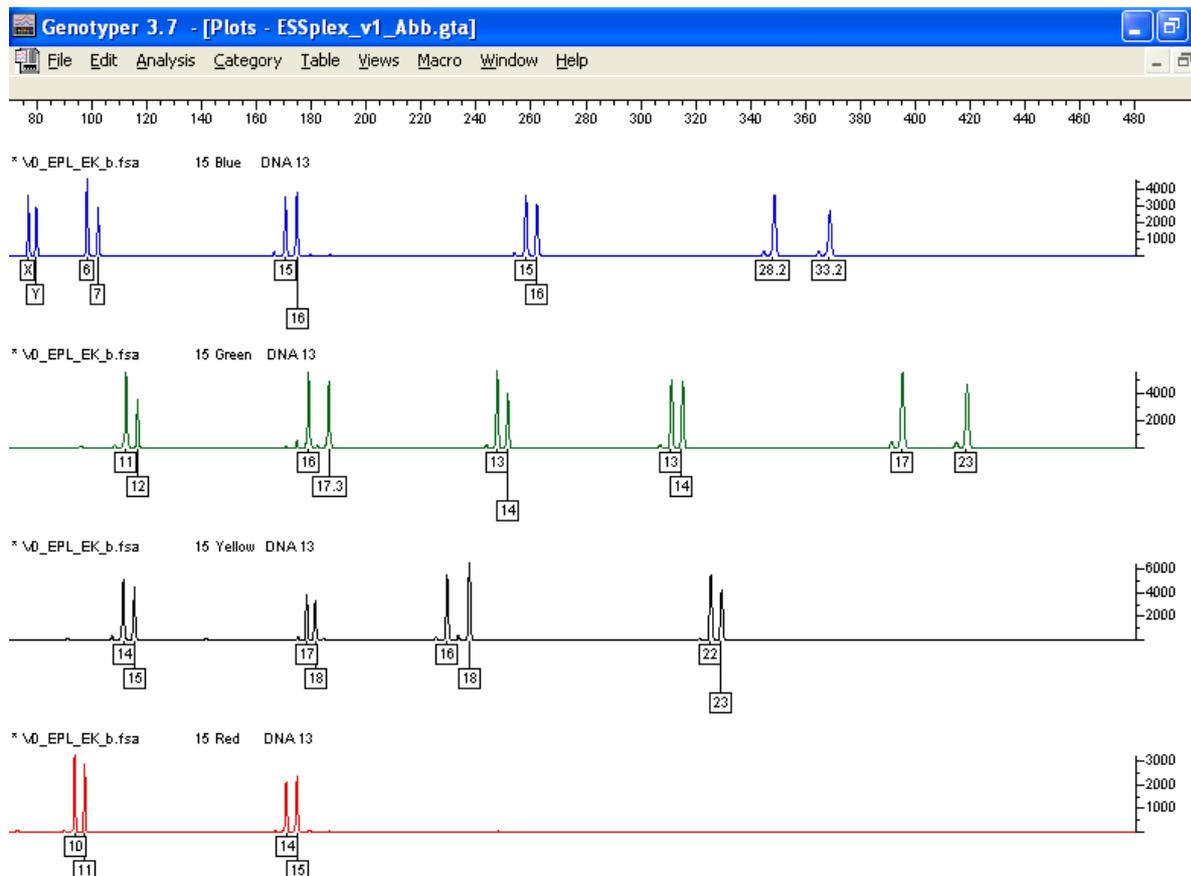

Figure 3. Plot Window after execution of Macro “Label 20% Filter”.
- Using the macro “Label “20% Filter”, peaks are indicated with their allele designation (Figure 3)